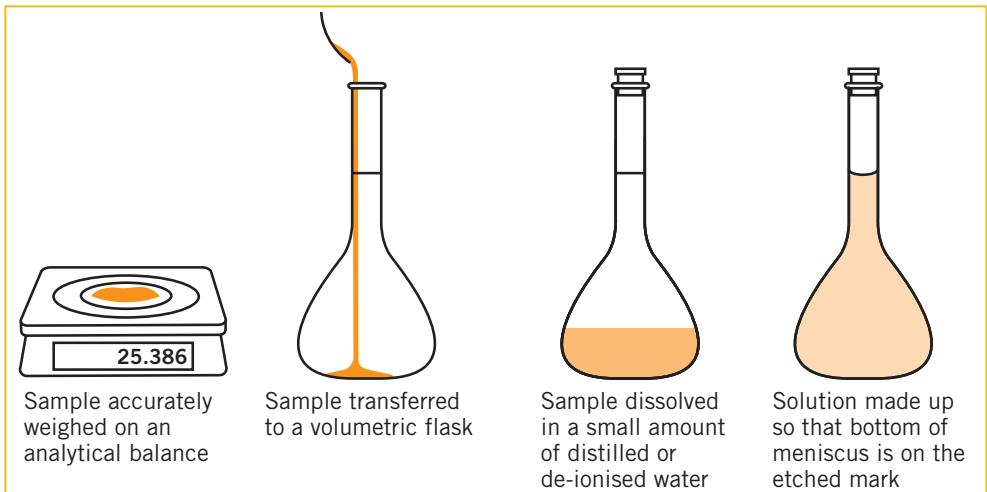

Figure 8.7 Steps in making a solution of a primary standard
- thoroughly shaking the contents to ensure that the solid has dissolved and is evenly spread through the solution (Figure 8.7).